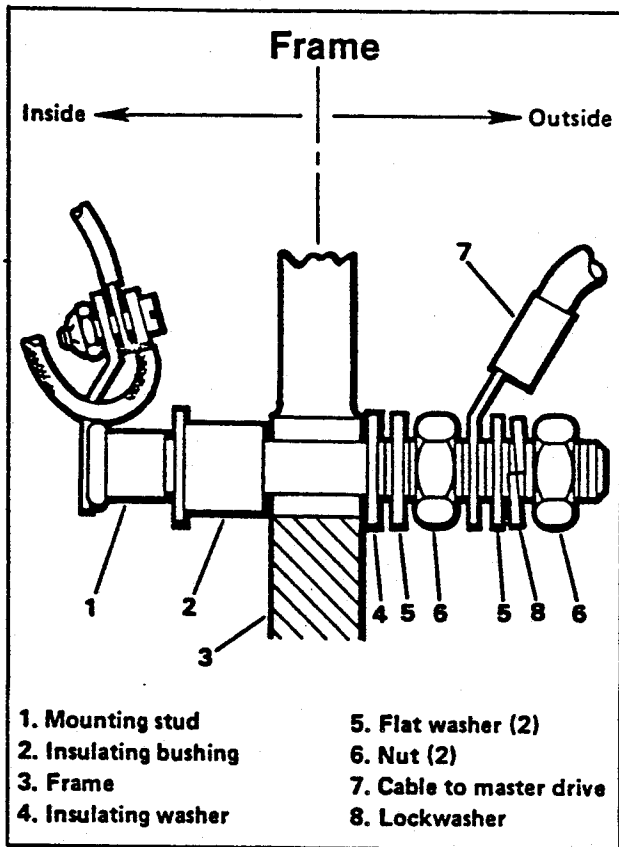

Figure 8-34. Motor Terminals
3. See Figure 8-34 for correct stacking of wire mounting bolt hardware (24), (25).